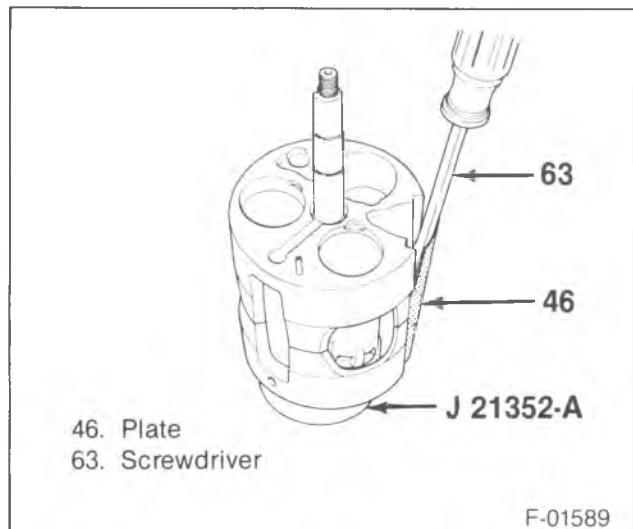
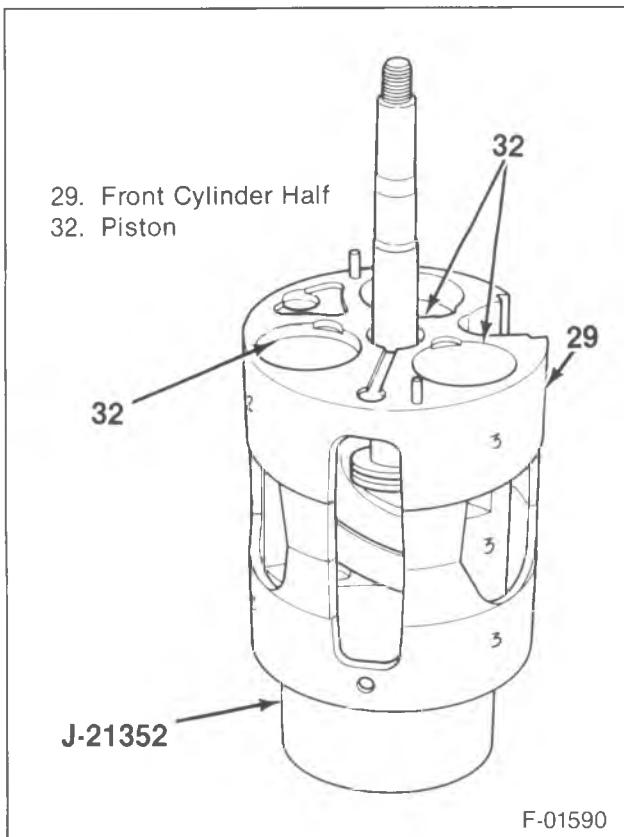

Figure 22—Removing the Rear Suction Reed Plate
Figure 23—Numbering the Pistons and Cylinders
11. Front head assembly (16) from the shell (9).
- Rest the compressor shell (9) on its side and push the fronthead assembly (16) through the shell (9).
12. Front seal (17).
- Tap on the outside of the front head (16) with a plastic hammer to overcome the friction of the seal (17) between the fronthead (16) and the shell (9).
13. Front discharge valve plate (18).
14. Front suction reed plate (19).
15. Suction cross-over plate (46) (figure 22).
- Pry with a screwdriver between the casting (29) and the cover.
- Number the piston and the piston bores with the same numbers so the pistons can be installed in their bores (figure 23).